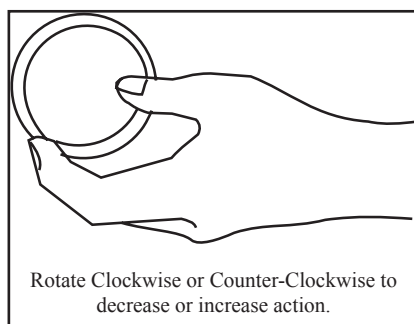

FIGURE 22
1. To increase the amount of air (bubbling action), rotate the silent air control counter-clockwise. (See Figure 22)
2. To decrease the amount of bubbling action, rotate the air volume control clockwise. (See Figure 22)